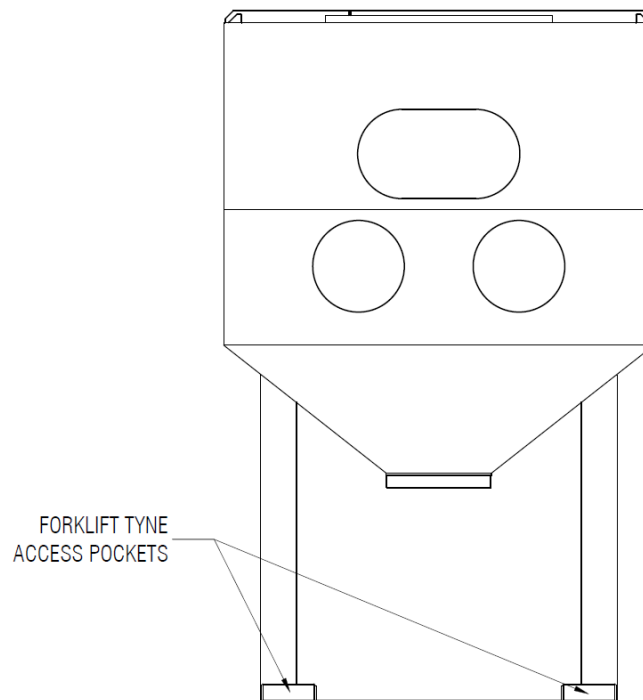

Figure 4
- 3.3 The blast cabinet should only be moved and positioned using a suitably sized forklift utilising the two (2) forklift tyne pockets located on the base of the cabinet legs. See figure 4.